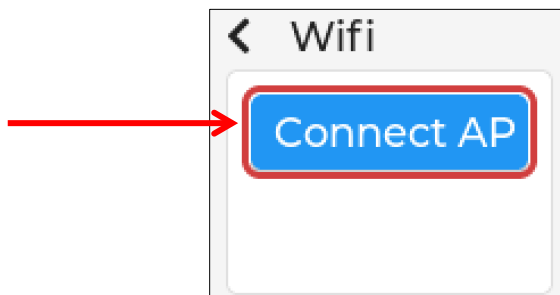

Figure 13: Wi-Fi Setting Screen
5. When Wi-Fi window opens, rotate the control knob to highlight **Connect Ap** and press knob to select. See *Figure 13*.